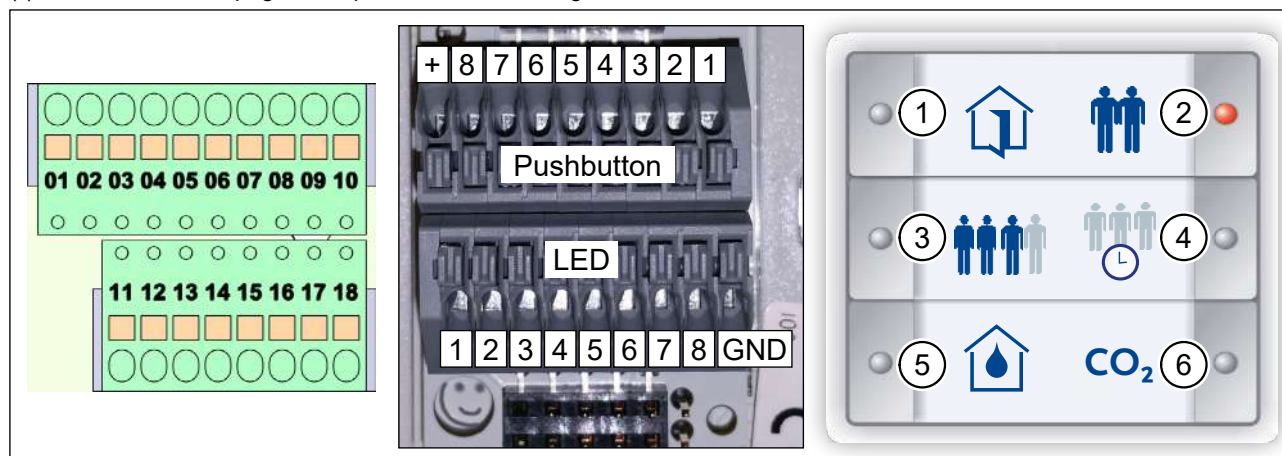

Fig. 29: Terminal blocks on ventilation unit, terminal blocks on InControl pushbutton sensor, insert sheet
- After wiring, place the insert sheet (Fig. 29) in the InControl pushbutton sensor.